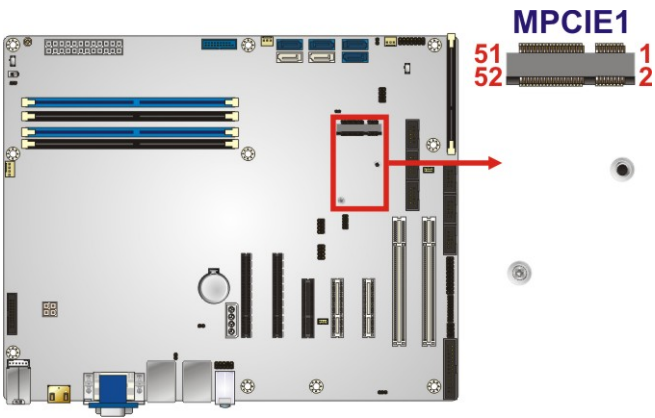

Figure 3-23: PCIe Mini Slot Location
- CN Location: See Figure 3-23